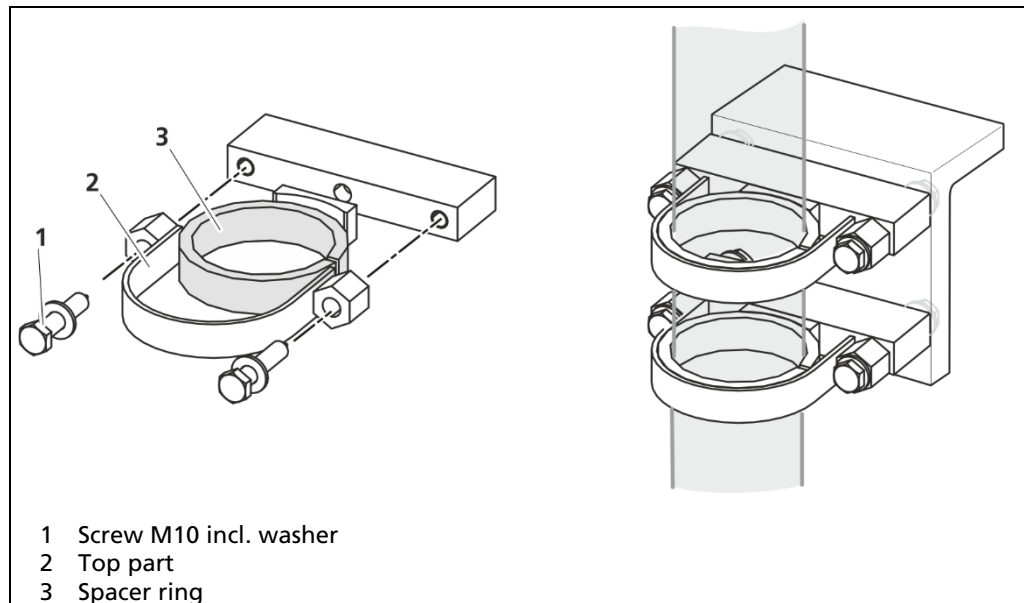

Fig. 7 U-clamp and detector holder stainless steel
1. Unscrew the two screws (Fig. 7, Pos.1) on the side of the mounting clamp.
2. Take off the top part (Fig. 7, Pos.2) of the mounting clamp.
3. If necessary, remove the spacer ring (Fig. 7, Pos.3) if a detector with water cooling system is to be installed.